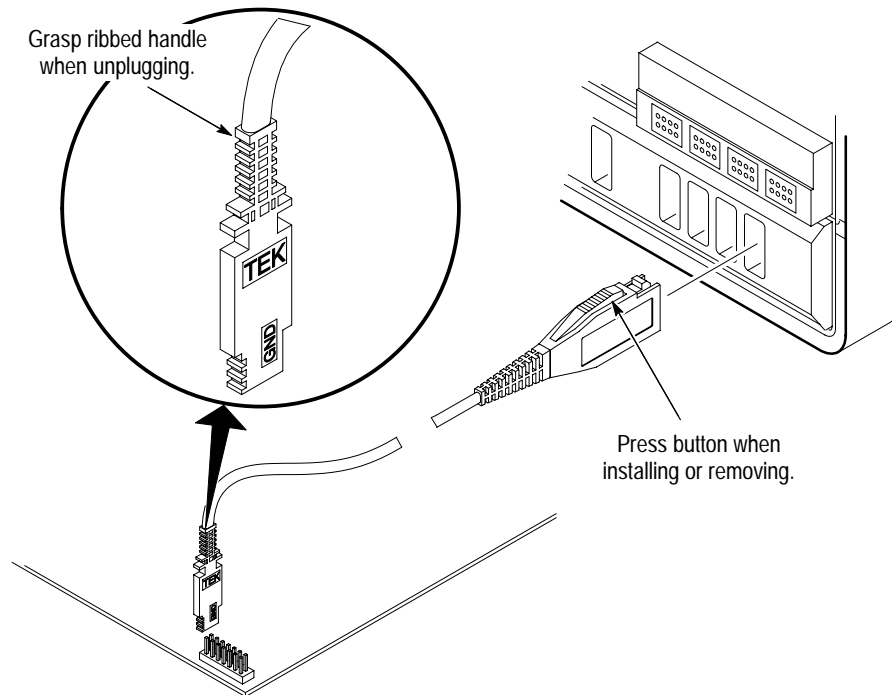

Figure 3-47: Basic Probe Connection
1. Connect a probe base to any one of the **CH 1** through **CH 16** inputs. Simply push the probe into its front-panel receptacle. (See Figure 3-47.)
2. Connect the probe tip between the ground and signal pins. Simply plug the signal onto the two pins, observing the proper polarity. (See Figure 3-47.)
**CAUTION.** When disconnecting the probe tip from any circuit or from any probe accessory that may be installed, grasp the probe by the ribbed probe tip and unplug. **DO NOT** pull on the probe cable when disconnecting the probe. See Figure 3-47.